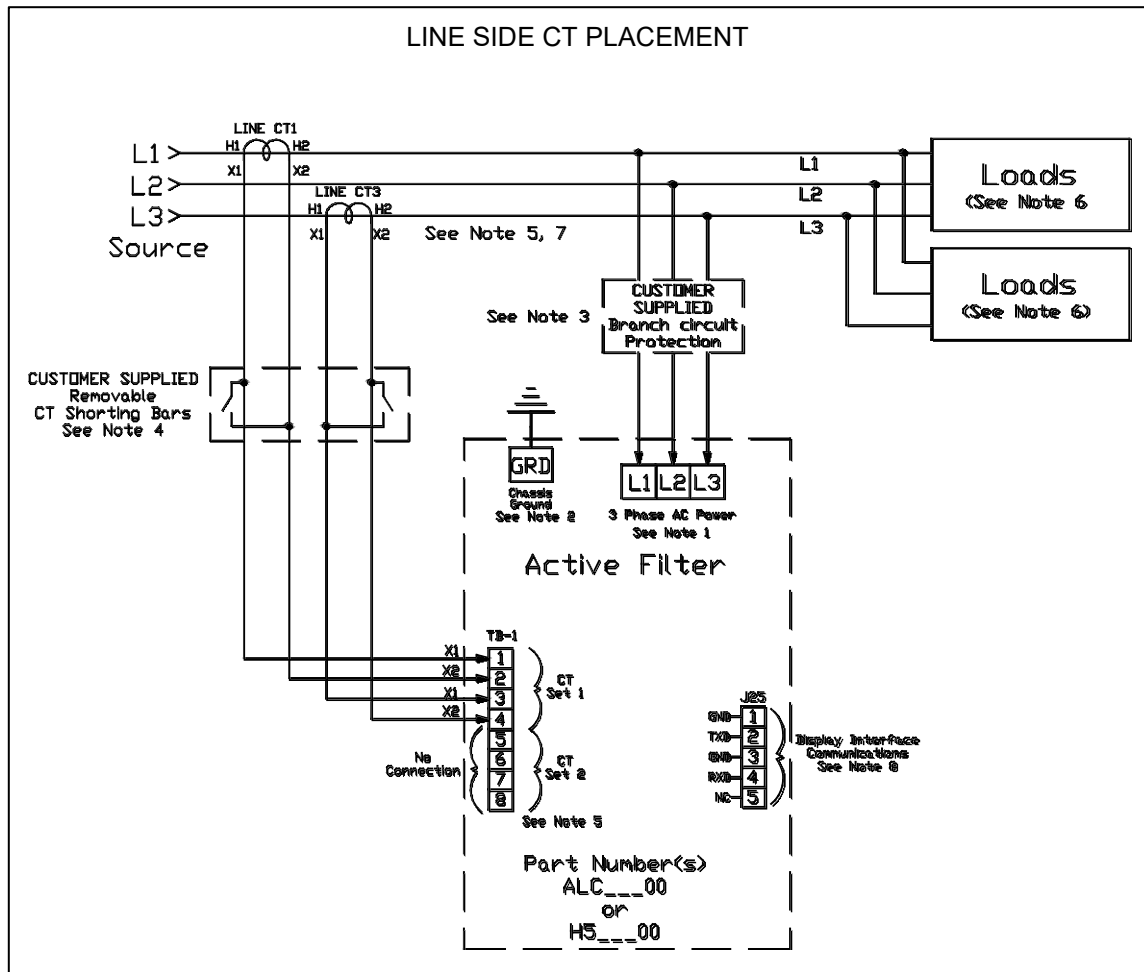
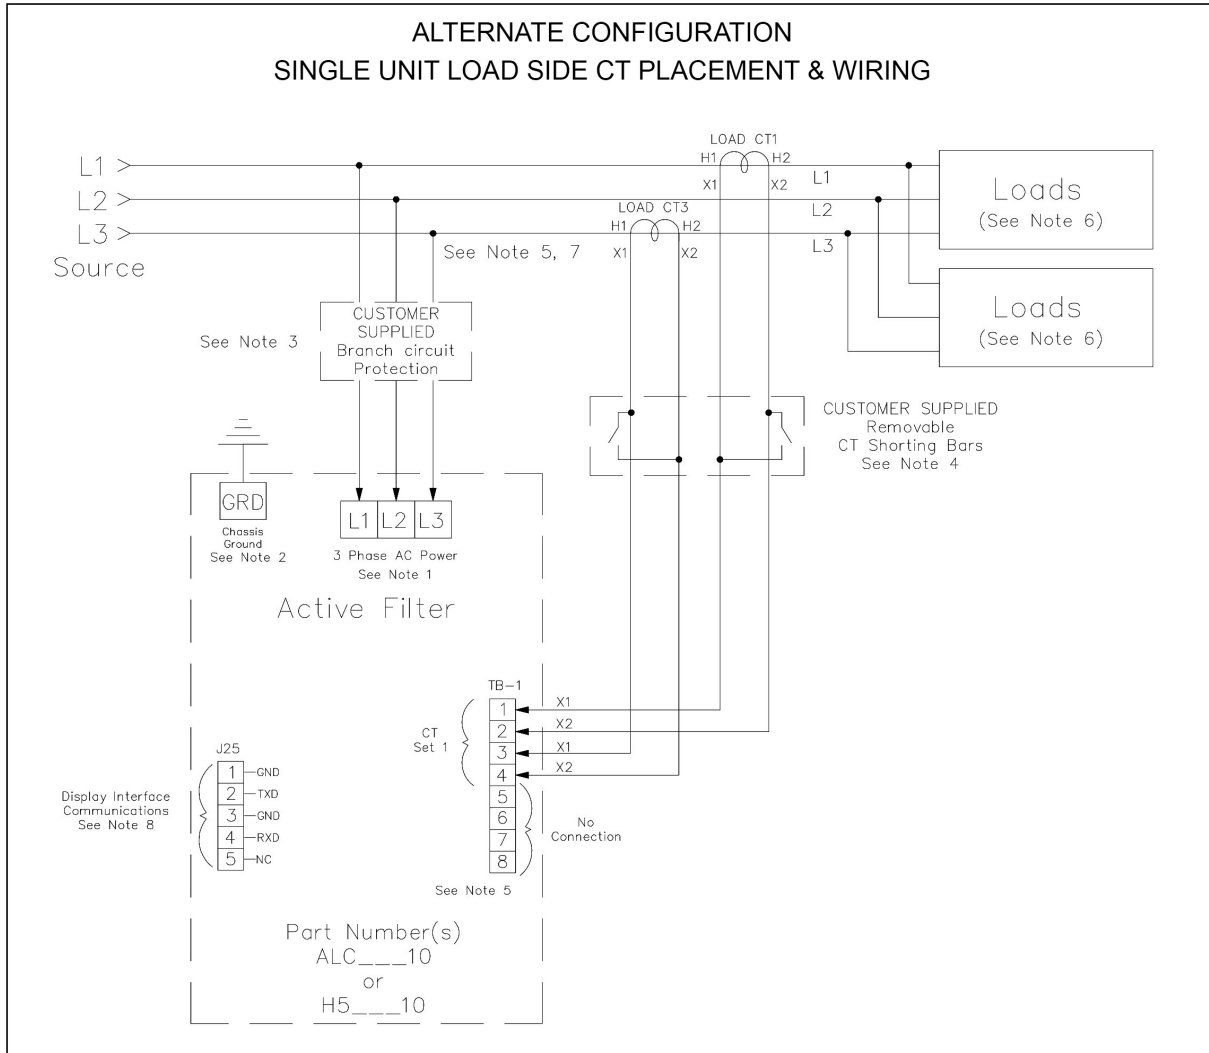

Figure 8: HGA 480 V Single Unit Line Side / Bus Applied Connection Diagram
Figure 9: HGA 480 V Single Unit Load Side / Drive Applied Connection Diagram
It is necessary for the HGA to monitor the current in Phase "A" (L1) and Phase "C" (L3). Stand-alone HGA filters are designed for Line Side current transformer (CT) placement as shown in Figure 8. It is important that both CTs are on the same side of the HGA. The CTs should be centered around the conductor. Optional Load Side CT placement is available for single units as shown in Figure 9.